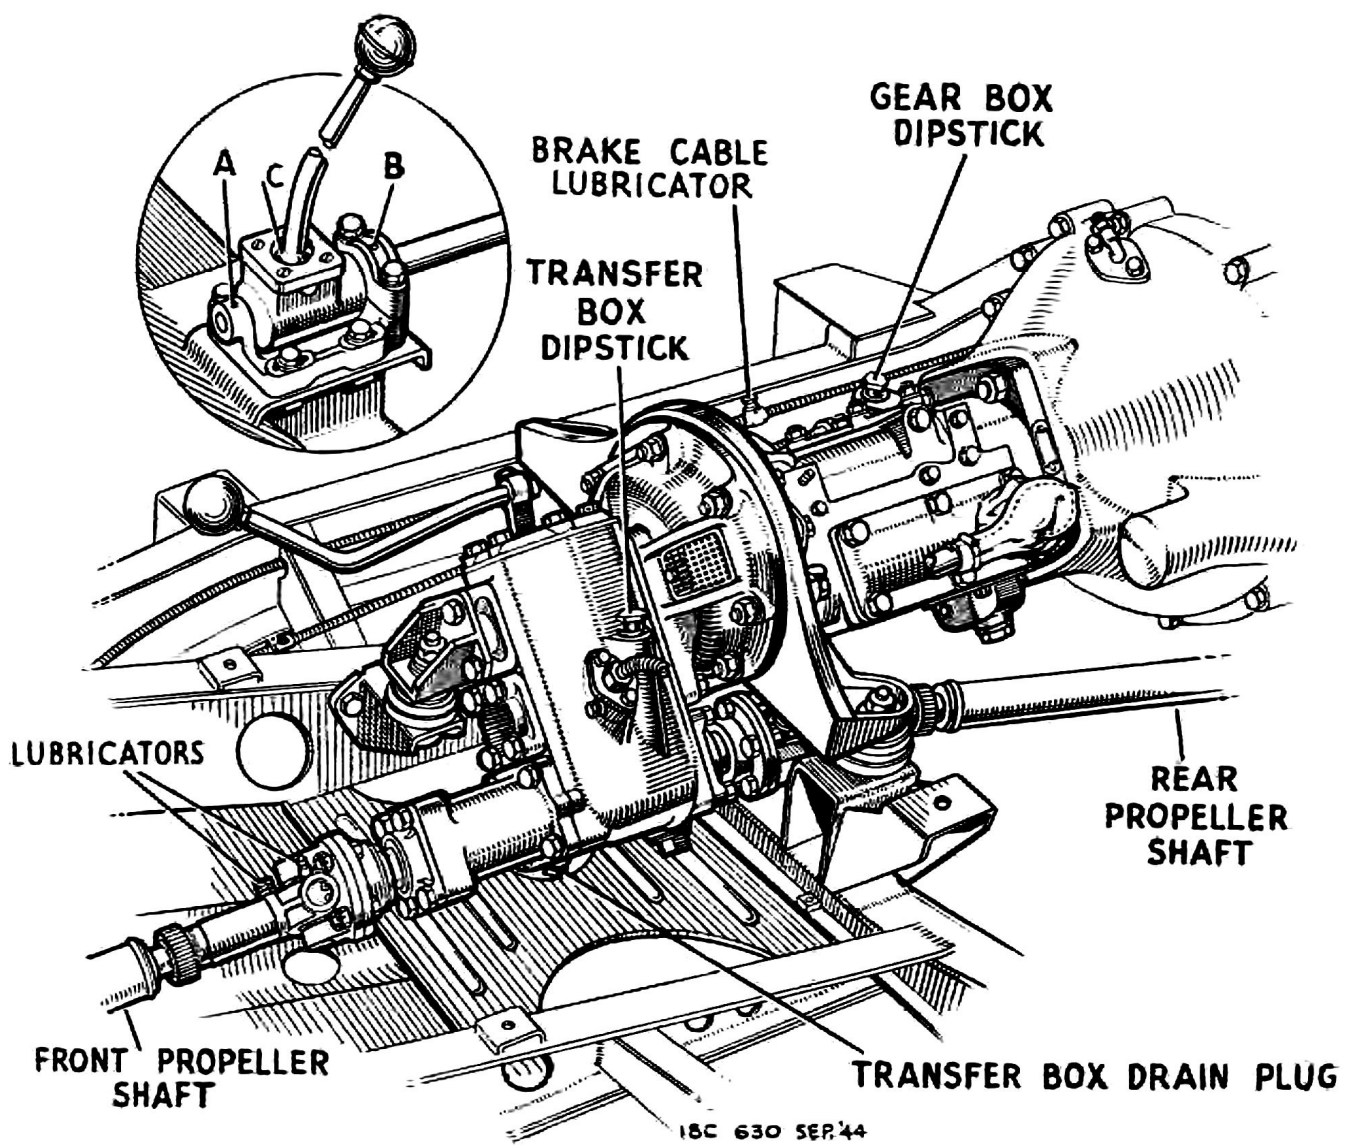

Fig. 17.—GEARBOX AND TRANSFER BOX.
5. The three points A, B and C (Fig. 17) may be lubricated by a force feed oil can when the gaiter at the bottom of the gear lever is removed. When this gaiter is replaced, ensure a watertight joint by carefully tightening the four nuts securing the clamp plate.
(See Fig. 17)
2. Remove the dipstick. (Fig. 17.)